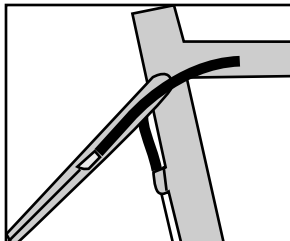

Fig. 17
2. Slide the housing onto the cables. The longest rear housing, for the rear derailleur, exits the top tube on the right side. Thread it from the right side of the bike to reach the cable stop on the seatstay (Fig. 17).
3. The front derailleur housing exits the rear of the top tube on the left side. Thread it to its cable stop on the seat tube (Fig. 17).